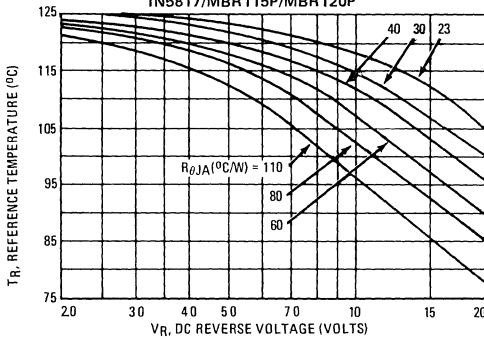

FIGURE 2 – MAXIMUM REFERENCE TEMPERATURE
Step 2. Find  $T_R$  from Figure 2. Read  $T_R = 109^\circ\text{C}$  @  $V_R = 9.2 \text{ V}$  and  $R_{\theta JA} = 80^\circ\text{C/W}$